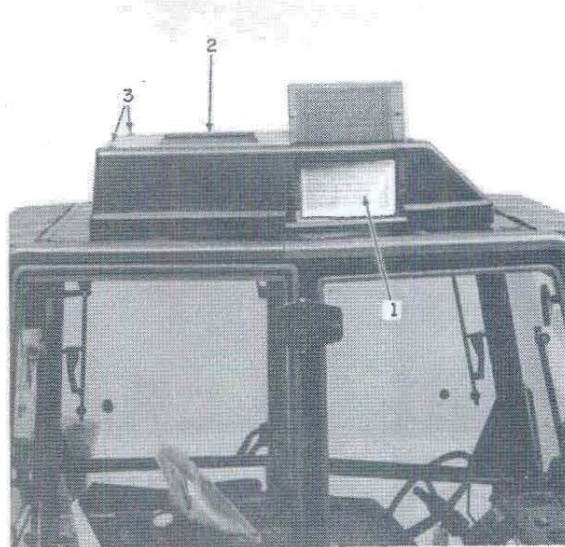

FIGURE 9-33
2. Remove the air conditioning screen and filter, Figure 9-33.